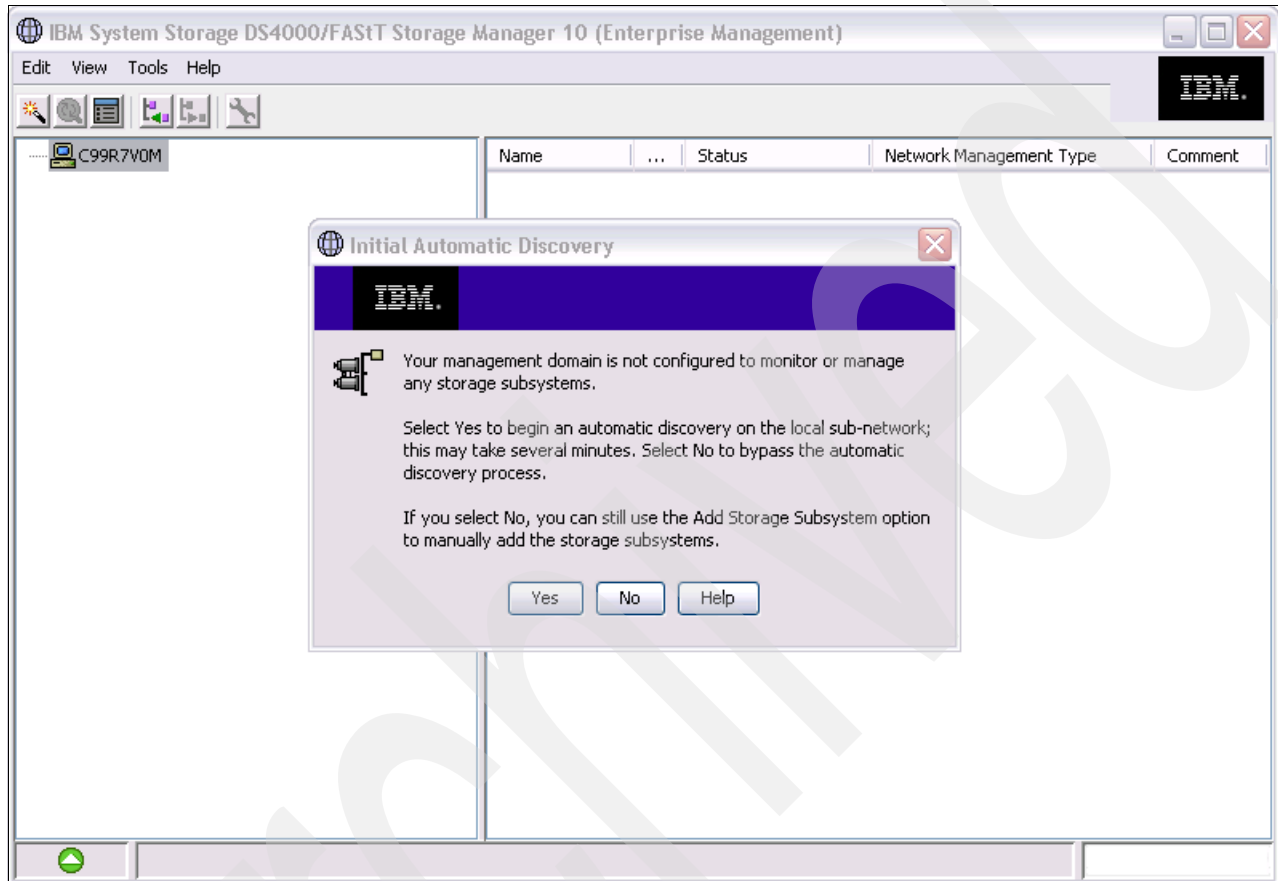

Figure 7-10 DS Storage Manager Initial Automatic Discovery dialog
12. At its first start the IBM System Storage DS4000 Storage Manager presents the Initial Automatic Discovery dialog, as shown in Figure 7-10, where we select **No** since we prefer to add our DS4800 Storage System manually, as we know the IP addresses of both controllers.